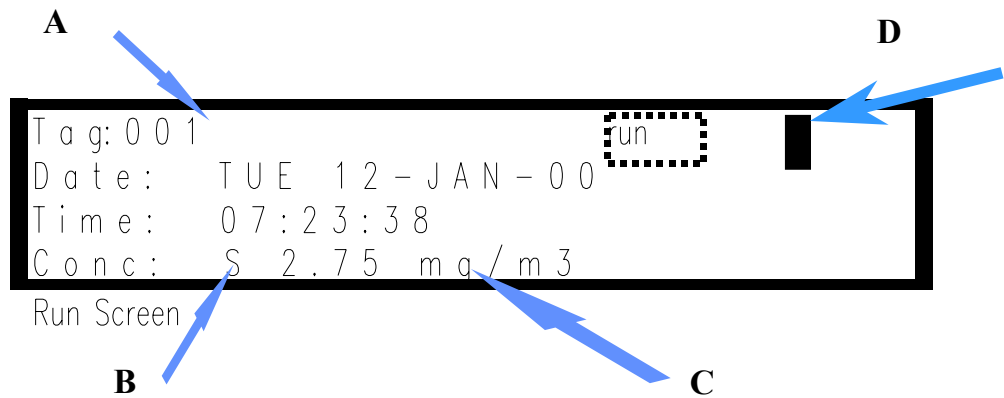

Figure 3.10. The Run Screen. The table below describes the diagram details.
**Introduction** The EPAM-5000 assigns a location code called tag number to each sampling sequence. The active location is indicated in the Data Record Screen (See figure 3.10).